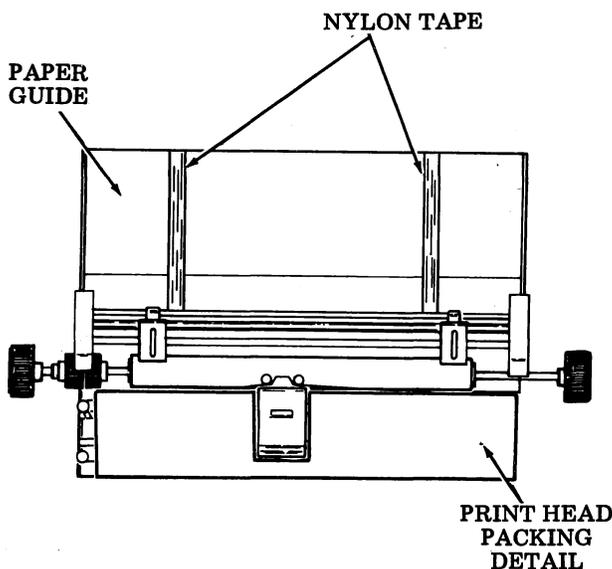

Fig. 2
3.05 Remove the print head packing detail and the tape securing the paper guide. See Fig. 2.